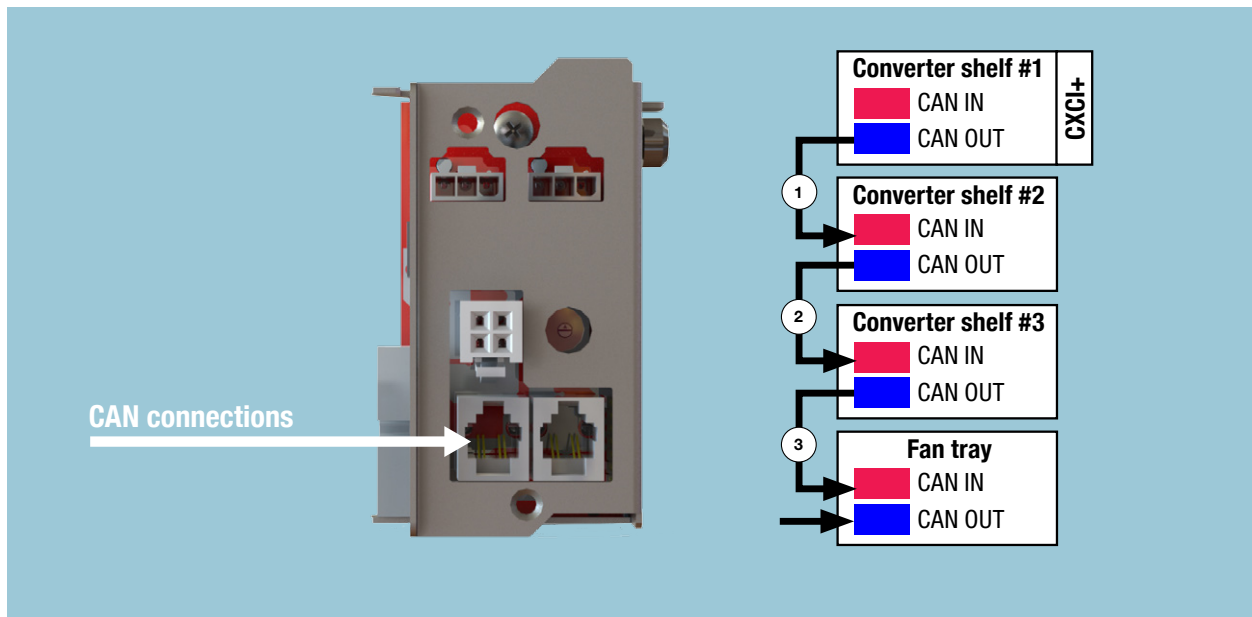

Figure 2 LPS36 CAN Connections
In loop reduction and CAF-II programs, a single shelf will often provide enough power for all the DSLAMs in the exchange. Nevertheless, there are occasions when multiple Line Power shelves are required at a single site. One CXCI+ Controller can control up to nine (9) nearby LPS36 shelves. When multiple shelves are installed, one of them is equipped with a controller. The rest are simply connected to the shelf with the Controller via a CAN bus jumper. The controller slot is left empty in those shelves. The CAN connections to the shelf and the daisy chain connections are shown in Figure 2.